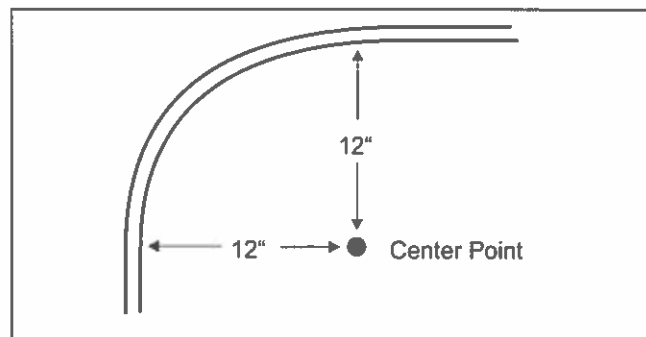

FIGURE 2: Minimum Suction Line Form
- No attempt should be made to bend the suction line in a shorter radius than 12". See Figure 2.